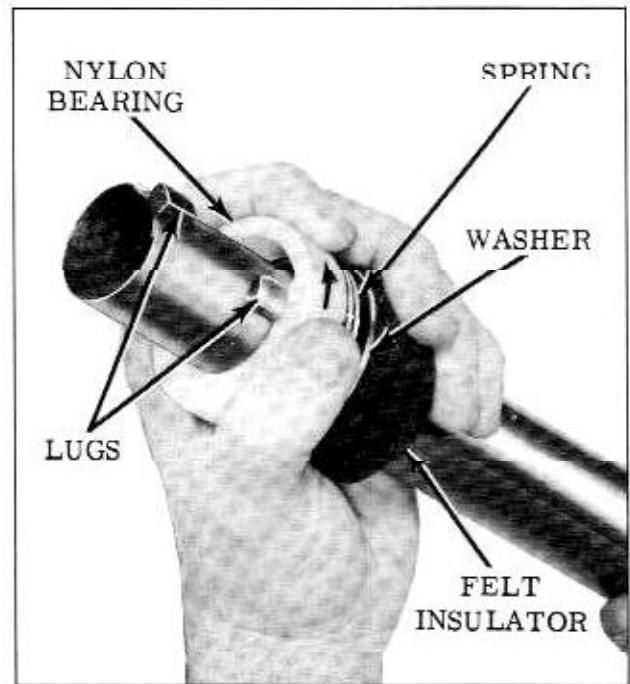

Fig. 4-20 Installing Nylon Bearing
3. Slide nylon bearing onto shift tube guiding it around the locator bosses. Push bearing onto the shaft far enough to compress the spring and rotate the bearing so that the second locator boss holds the bearing and spring in place. (Fig. 4-20)